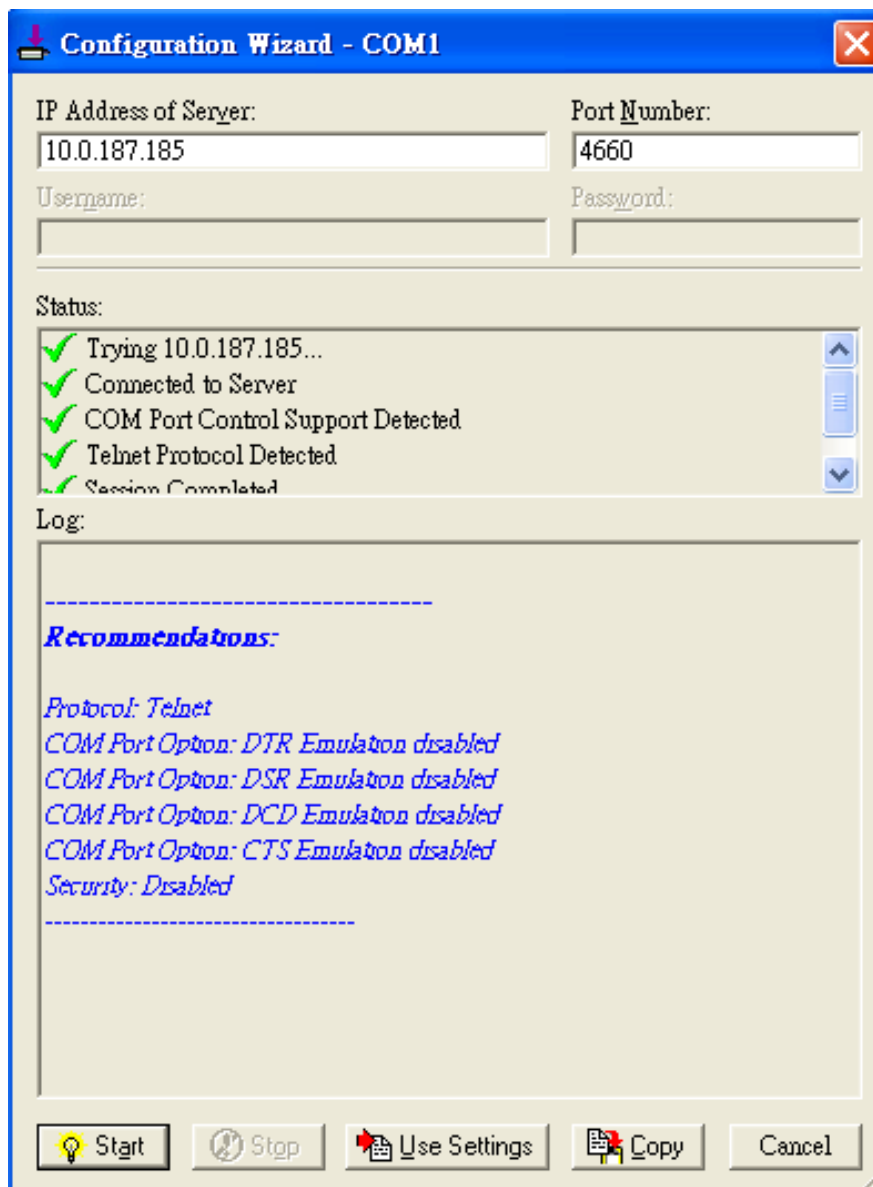

Figure 6.10 Auto Configure (formerly Configuration Wizard) Window for COM 1
5. To test the Virtual COM connection, you can click the **Auto Conigure...** button and then click the **Start** button in the pop-up window as shown in Figure 6.10. If the test passes, all checks under the **Status** text box should be green. In this **Configuration Wizard** window, you can change the **IP Address** of Server, **Port Number**, **Username** (if **Use Credential** option is enabled), and **Password** (if **Use Credential** option is enabled). To apply the changes in the Configuration Wizard window to the Serial/IP Control Panel, please click on **Use Settings** button at the bottom of the window in Figure 6.10. You can also click on **Copy** button to copy the results to the PC system clipboard.